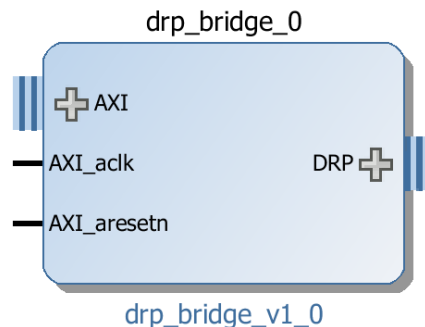

Figure 3: AXI to DRP Bridge IP within IP Integrator
The DRP interface from the PCI Express core is directly connected to the AXI to DRP Bridge IP core. The AXI to DRP Bridge core is part of the reference design and is packaged as an IP core in IP integrator. This IP makes it simple to access DRP registers of the transceiver through any AXI master such as MicroBlaze™, Xilinx Zynq®-7000 All Programmable Processing System (PS) or JTAG to AXI Master IP. Figure 3 shows how the AXI to DRP Bridge IP appears in IP integrator. On the left-hand side, the AXI interface is connected to the AXI interconnect so that it can be accessed by any AXI Master. The right-hand side drives the transceiver DRP interface provided from the PCI Express IP core.